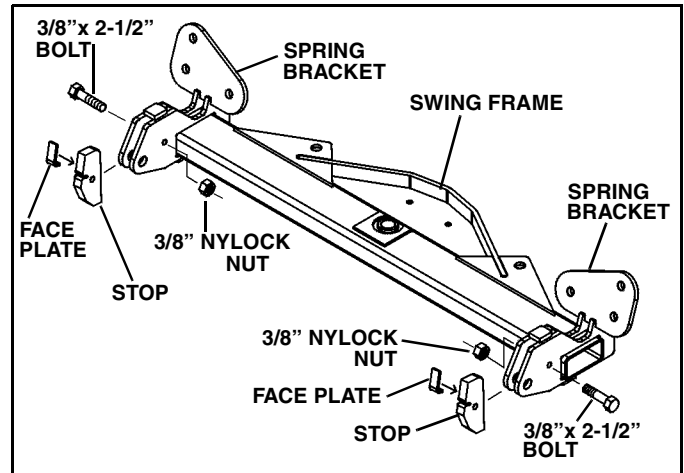
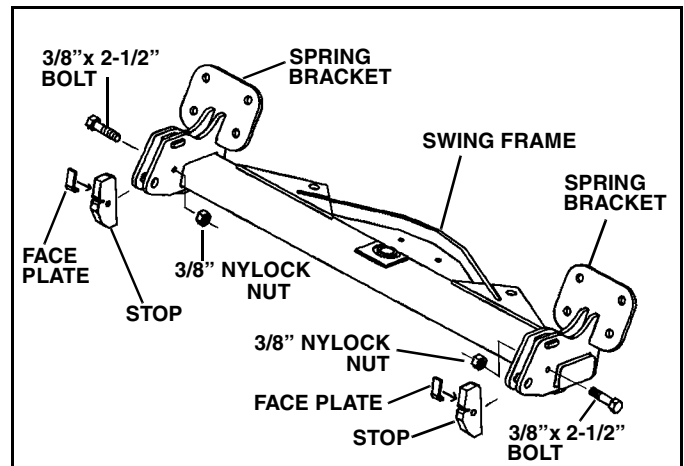

Figure 1-4a (Old Swing Frame)
Figure 1-4b (New Swing Frame - Forwards and Backwards Compatible)
2. Slide the metal face plates into the slot in the blade stops from the side. Place the stops between the lugs on the swing frame. Secure with 3/8" x 2-1/2" bolts and locking nuts. (See Figure 1-4a). or Figure 1-4b Bolts and nuts are in the blade parts bag.